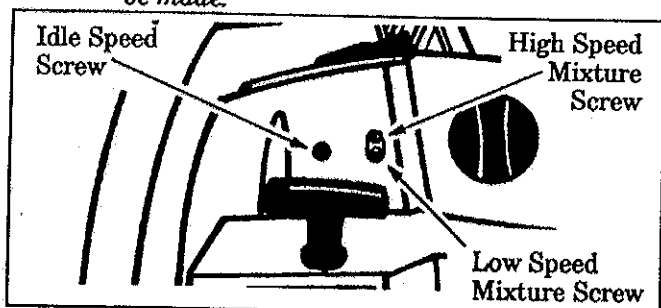

Figure 37
- Locate the three (3) carburetor adjusting screw openings to the right of the air filter cover. Figure 37.
- Start the engine and allow engine to idle three (3) minutes to warm up. *The engine must be at operating temperature for proper adjustments to be made.*